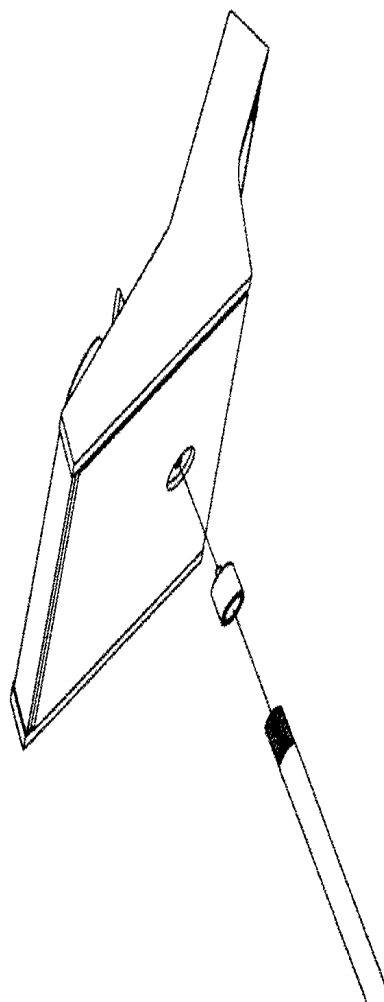

Figure 1-1. Attaching the RSP8 to a microphone stand.
- attach the supplied microphone stand adapter to the bottom of the RSP8, then thread the adapter onto the top of a standard microphone stand, as shown in Figure 1-1. You'll probably find this works best if you attach the adapter to the bottom of the RSP8 before you attach it to the mic stand.